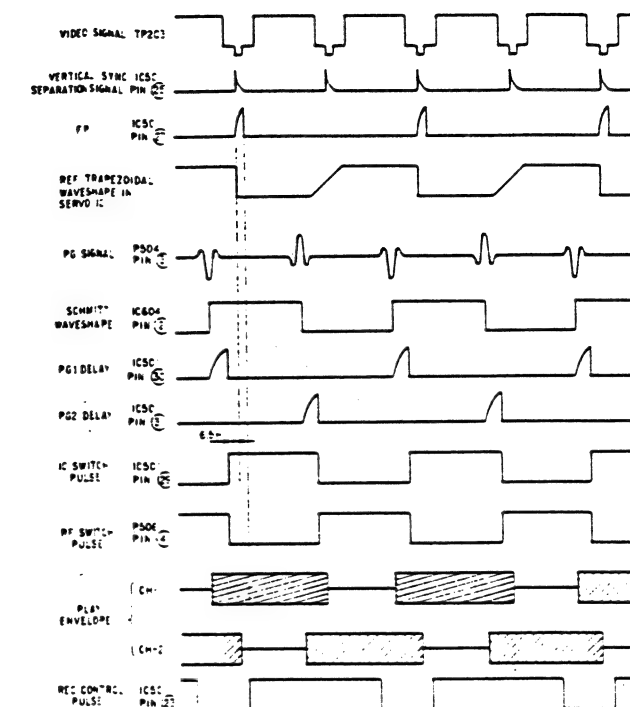

Fig. 4-5-1 Cylinder servo timing chart
- The PG pulse is created by detecting rotation of the PG magnets mounted on the lower part of the cylinder with the fixed PG heads. When the servo is locked, the PG pulse is set approx. 0.9 msec before head switching point. Fig. 4-5-1 shows the timing chart.